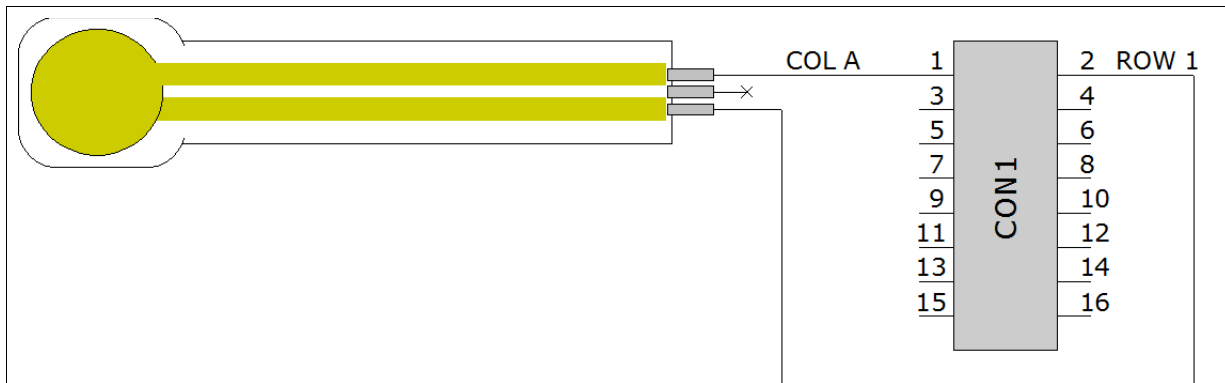

Figure 1: A Single force sensor connected to Row 1 / Column A.
A single sensor always connects to one row and one column. Figure 1 shows the connection of a force sensor to Row 1 and Column A as an example. With this scheme up to 8 sensors easily can be attached to Cebo-MSA64(W) using pairs Row 1 + Column A through Row 8 + Column H, respectively. In the grid chart of Cebo MSA lite DAQ these sensors will appear at the main diagonal from top left to bottom right.